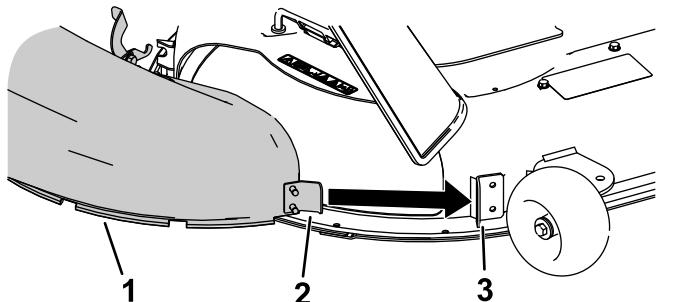

Figure 20
1. Angle the metal tab on the chute into the slot in the bracket welded to the mower deck (Figure 20).